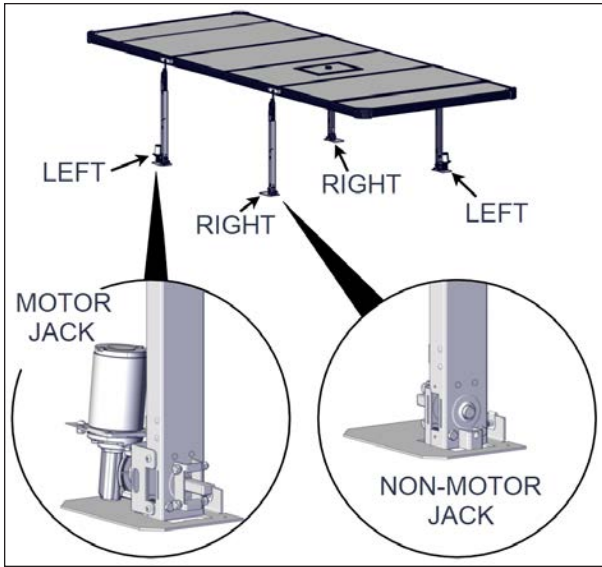

FIGURE 66: JACK POSITIONS
1. Position the jacks in their location. Motorized jacks should always be on the left side when looking at the spa, see Figure 66.